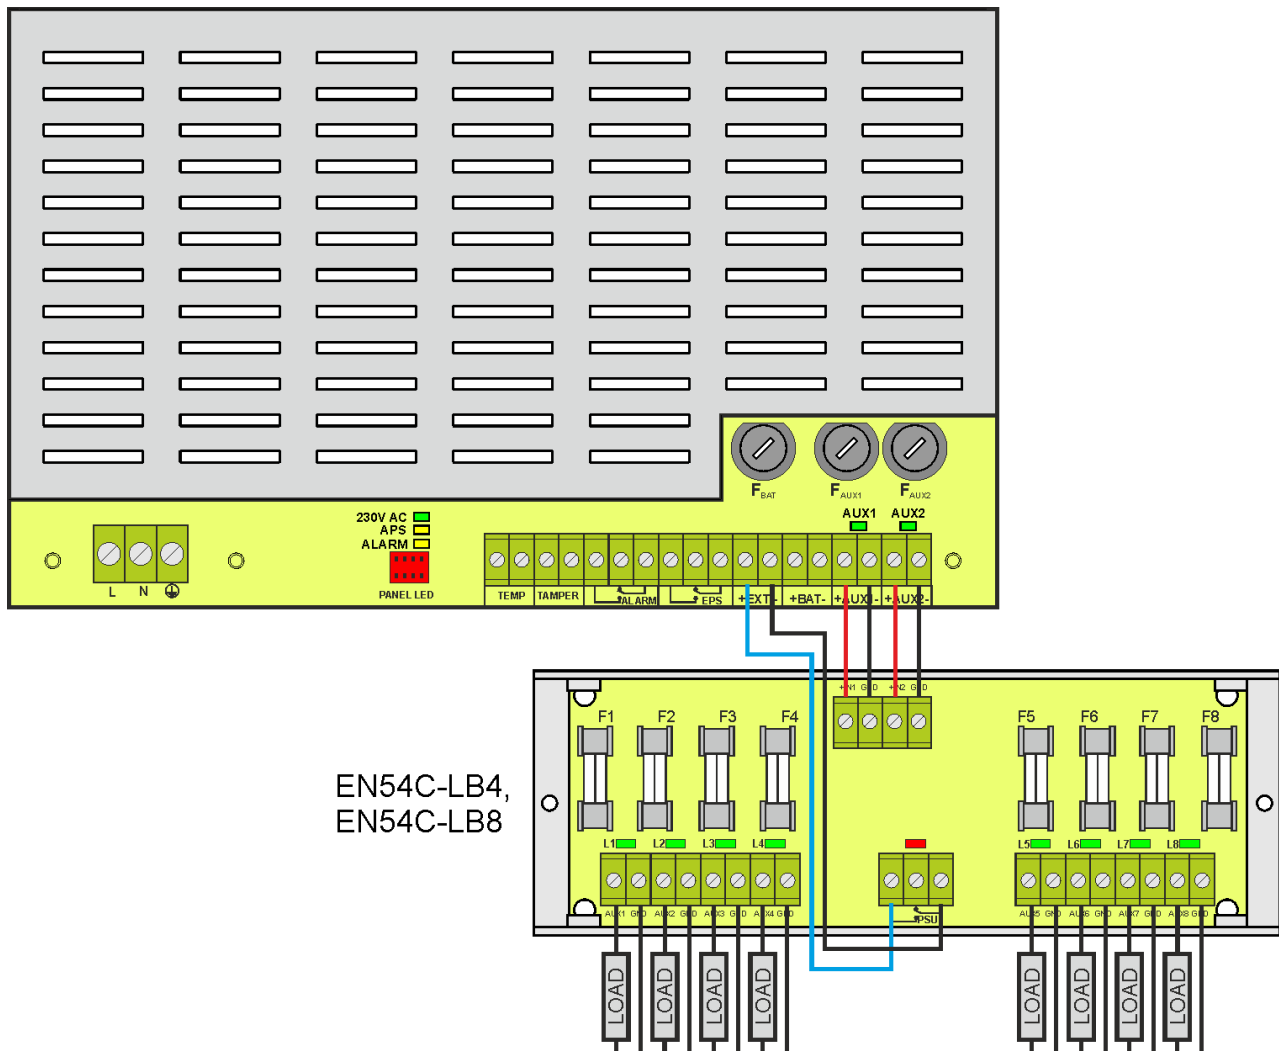

Fig. 10. Example of a connection with fuse module EN54C-LB8.
Figure 10 shows the connection of the power supply, the fuse module, and the receivers (LOAD).
- switching the PSU relay output into a no-voltage state (contacts as in Figure 10)